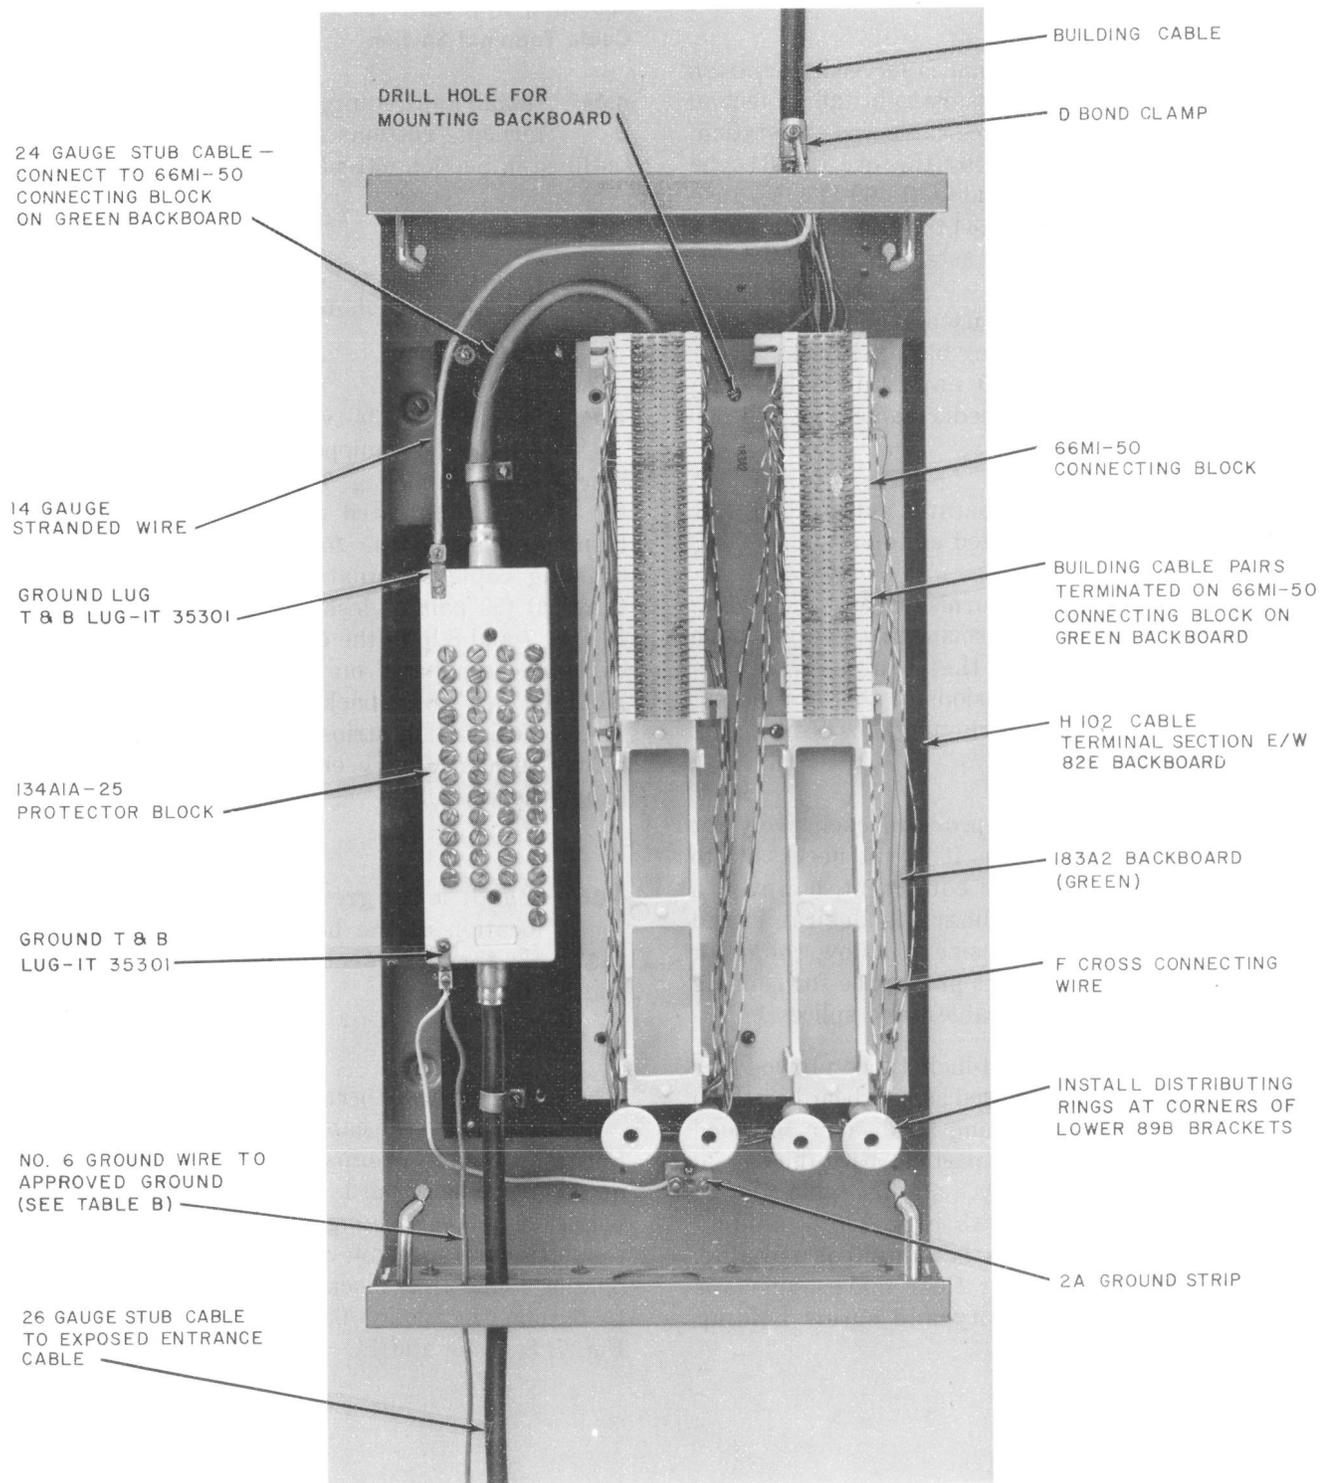

Fig. 7—16 or 25 Pair Exposed Entrance Cable—50 Pair Building Cable
**4.06** Install the 134-type protector and colored backboards equipped with 66M1-50 connecting blocks as shown in Fig. 7, 8, 9, 10, or 11. Normally the green backboard designates feeder cable terminations and the *blue* backboard designates building cable terminations; however, in a small terminal (50 pair or less) such as those illustrated in Fig. 7 and 8 both the entrance cable and building cable are terminated on 66M1-50 connecting blocks mounted on a *green* backboard. Then it is necessary to use designation strips placed on the connecting blocks to identify the entrance cable and building cable, respectively.
**4.07** Install a 2A ground strip at a convenient location at the bottom metallic surface of the cable terminal section (See Fig. 7, 8, 9, 10, and 11).
**4.08** Remove the gray PVC jacket from the 24-gauge stub cable of the 134-type protector. Feed the binder groups behind the 89B brackets on the green backboard. Equip the green backboard with 66M1-50 connecting blocks, then using a 714B tool terminate the stub cable in color code sequence on the connecting block adjacent to the protector as outlined in Section 631-050-108 and as shown in Fig. 7, 8, 9, 10, and 11.
- 4.14 Splice the black 26-gauge stub cable from the 134-type protector to the exposed central office feeder cable. The exposed entrance cable must be grounded within fifty feet of the building entrance to provide adequate protection of the customer's building against fire. The method of providing this grounding is outlined in Section 633-560-101. Run a No. 6 ground wire from the protector to protector ground as shown in Fig. 7, 8, 9, 10, or 11. See Section 460-100-201 for selection
of proper ground. Run a 14-gauge, standard, tinned conductor wire from the D bond clamps to the 2A terminal strip as shown in Fig. 7, 8, 9, 10, or 11.